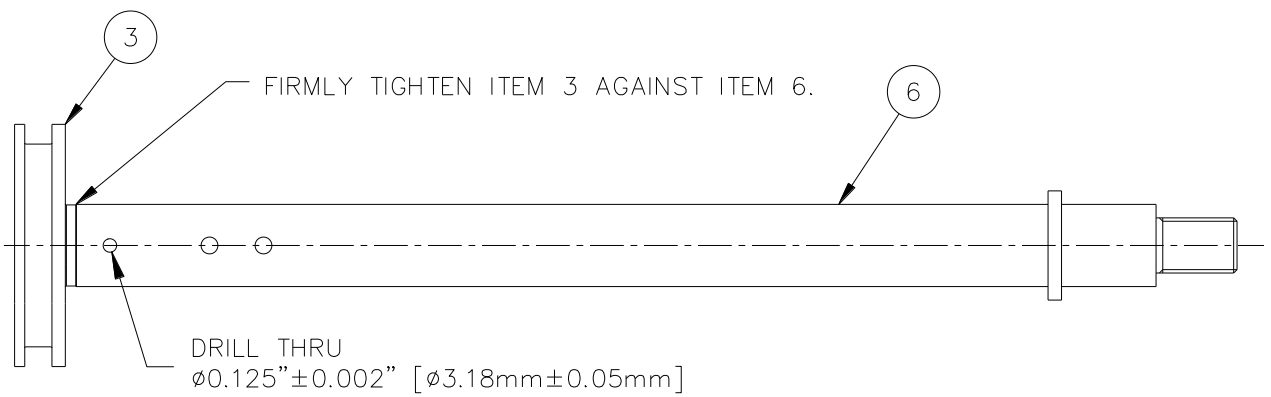

Figure 3: Plunger Installation to Piston Rod Assembly.
14. Fit the Plunger (Item 3) to the Piston Rod Assembly (Item 6) as shown in Figure 3.
15. Using the Piston Rod Assembly (Item 6) as a guide, drill the plunger (Item 3) for the installation of the roll pin as shown in Figure 3.